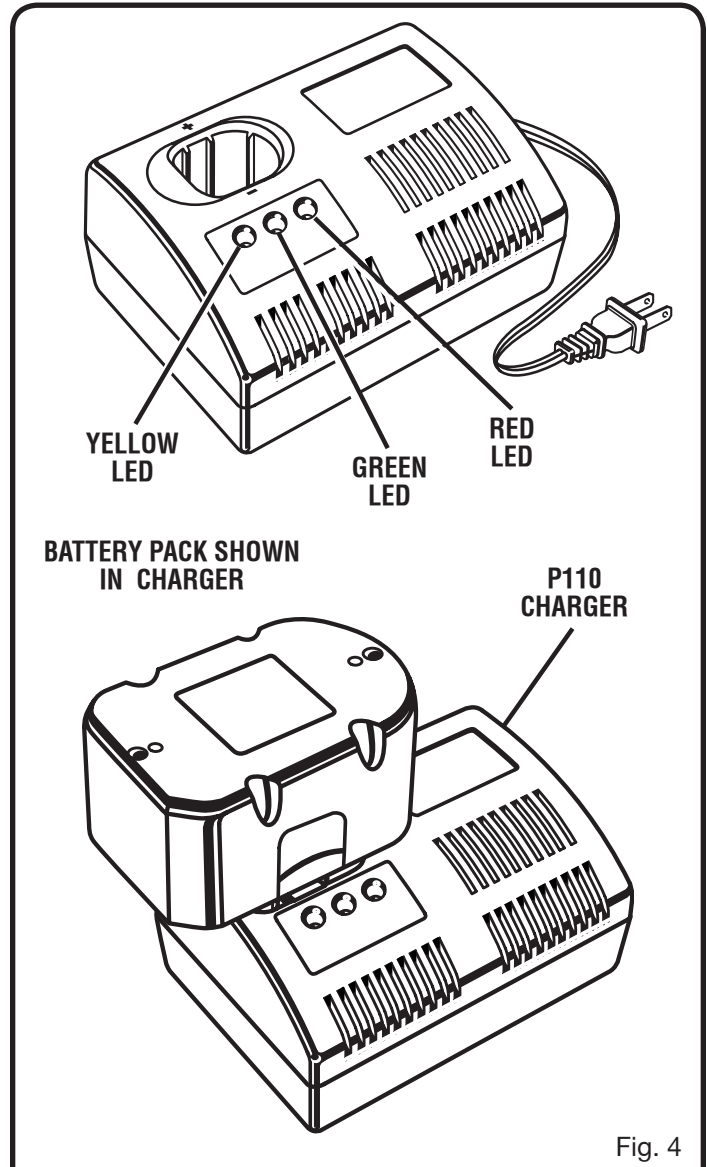

Fig. 4
- Place the battery pack in the charger aligning raised rib on the battery pack with the groove in the charger. See *Figure 4.*